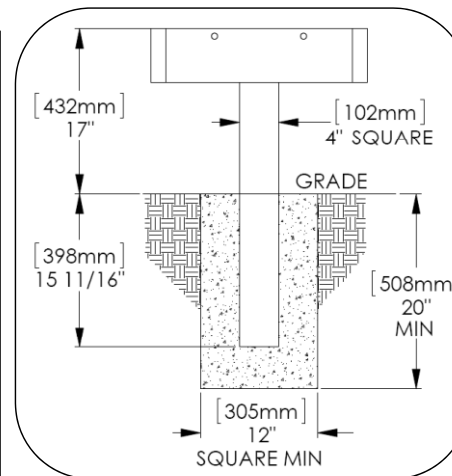

Fig. 1.3
1. Prepare footing or slab as required by site conditions and frost depth. See Fig. 1.3 and 1.4 for minimum recommendations.